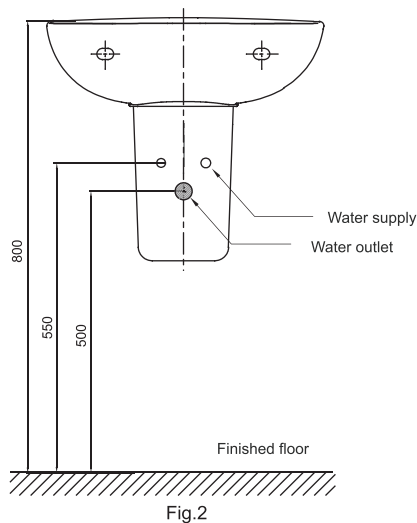

Fig.2
- Fig.2 for installing with semi-pedestal 2(CP-7531)